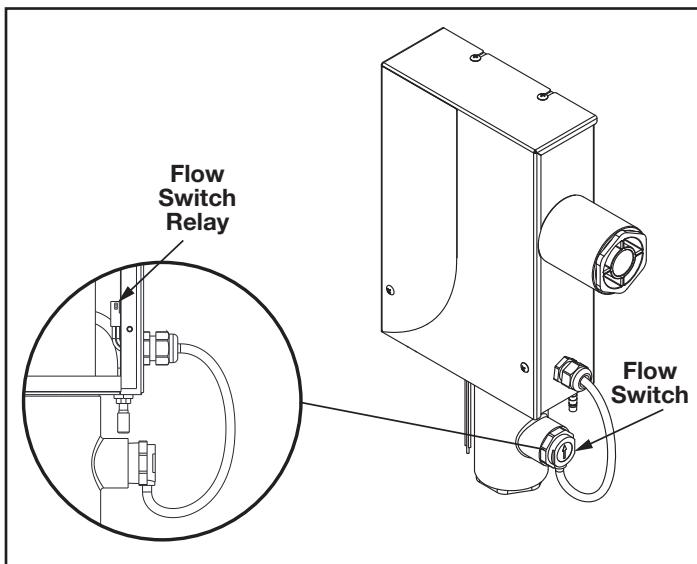

Figure 10. Jandy Offline AOP System Flow Switch Location and Electrical Connection
4. Disconnect the flow switch connector from the flow switch relay located on the lower right-side wall. See Figure 10.